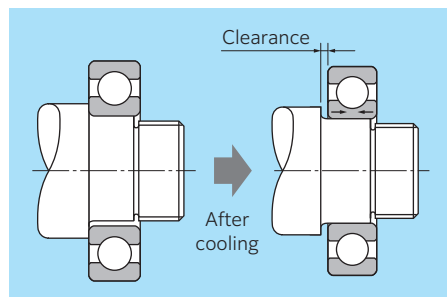

Fig. 15.19 Bearing contraction after heating
- When heat fitting is performed, the inner ring contracts in the axial direction during cooling, creating a clearance between the bearing and the shaft shoulder (see Fig. 15.19). Therefore, **it is necessary to tighten the bearing with a nut until it is completely cooled or apply a force in the axial direction while the bearing cools, to bring the bearing into close contact with the shoulder of the shaft.**